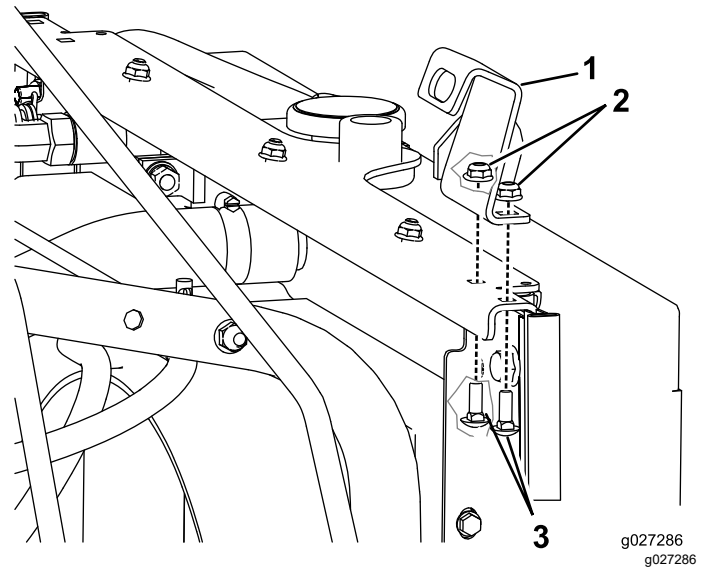

Figure 5
13. Install the latch bracket on the left side of the frame under the rear of the hood (Figure 5).